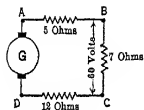

FIG. 55. The generator voltage is divided among the 3 resistors.
**Prob. 66-2.** (a) What is the voltage across  $AD$ , Fig. 55?
**Prob. 68-2.** What would be the combined resistance of the three wires in Fig. 55, if they were joined in parallel?